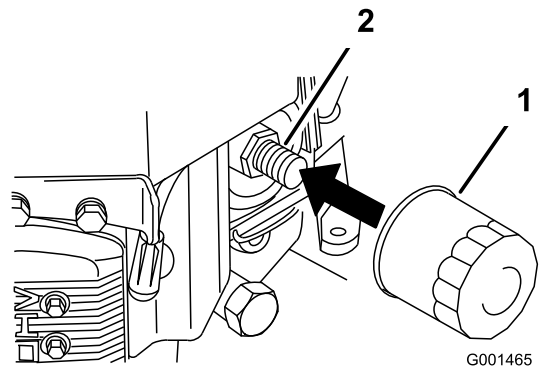

Figure 33
2. Remove the old filter (Figure 33).
3. Apply a thin coat of new oil to the rubber gasket on the replacement filter (Figure 33).
4. Install the replacement oil filter to the filter adapter, turn the oil filter clockwise until the rubber gasket contacts the filter adapter, then tighten the filter an additional 3/4 turn (Figure 33).